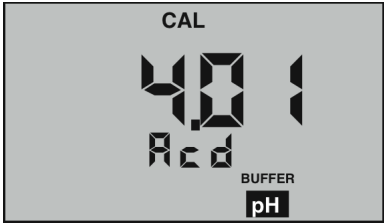

Figure 4
2. At this point the “**CAL**”, “**BUFFER**” and “**Acid**” or “**bas**” annunciators will be displayed (see Figures 4 and 5).